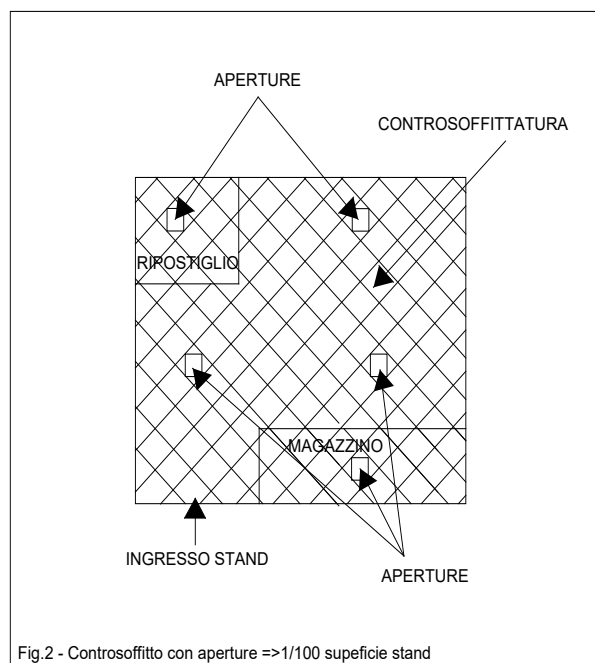

Fig.2 - Controsoffitto con aperture =>1/100 superficie stand
2. False ceilings in wood, metal, plaster, etc. must be made leaving openings for the evacuation of fumes for a total of 1/100 of the surface of the space concerned. These openings may be between 0.25 and 0.30 m2 and may be evenly distributed over the entire stand area or the part of the stand with false ceiling (see fig. 2).